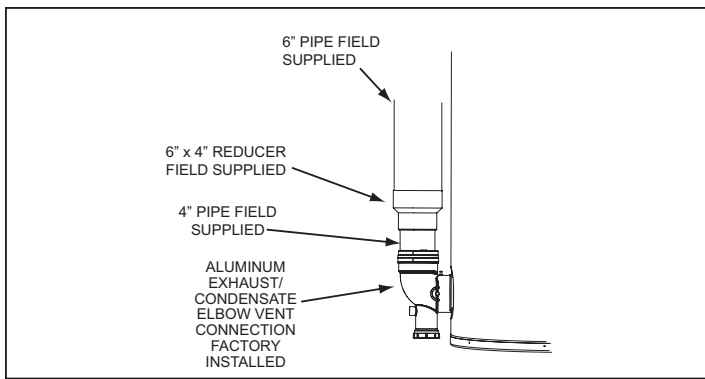

Figure 15. Vent Exhaust Connection
11. If installing 6 inch pipe transition to 4 inch pipe as shown in **Figure 15**. The field-installed 4" pipe between the exhaust elbow and the 6" x 4" reducer coupling should be 18 inches (45 cm) or less in length.
11. If installing 6 inch vent pipe transition to 4 inch pipe at the exhaust elbow on the water heater as shown in **Figure 15** (page 28). The field-installed 4" pipe between the exhaust elbow and the 6" x 4" reducer coupling should be 18 inches (45 cm) or less in length.